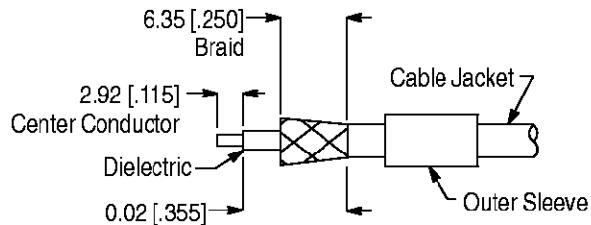

Figure 2
2. Strip the cable to the dimensions shown in Figure 2. Flare the cable braid.